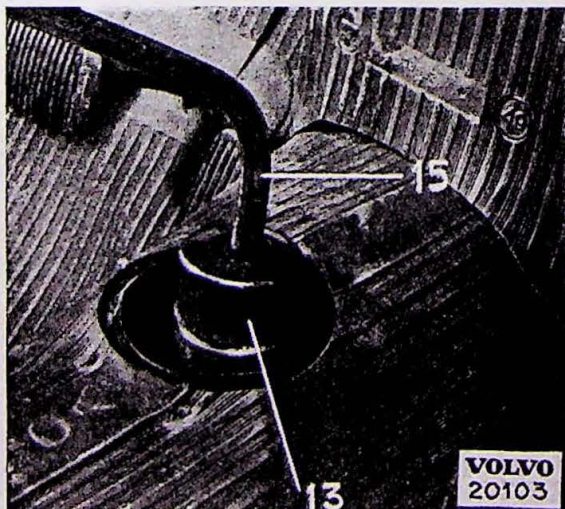

Fig. 4.
1. Remove gearshift level (15) by screwing out threaded hood (13). fig. 4 and lift gearshift lever upwards.